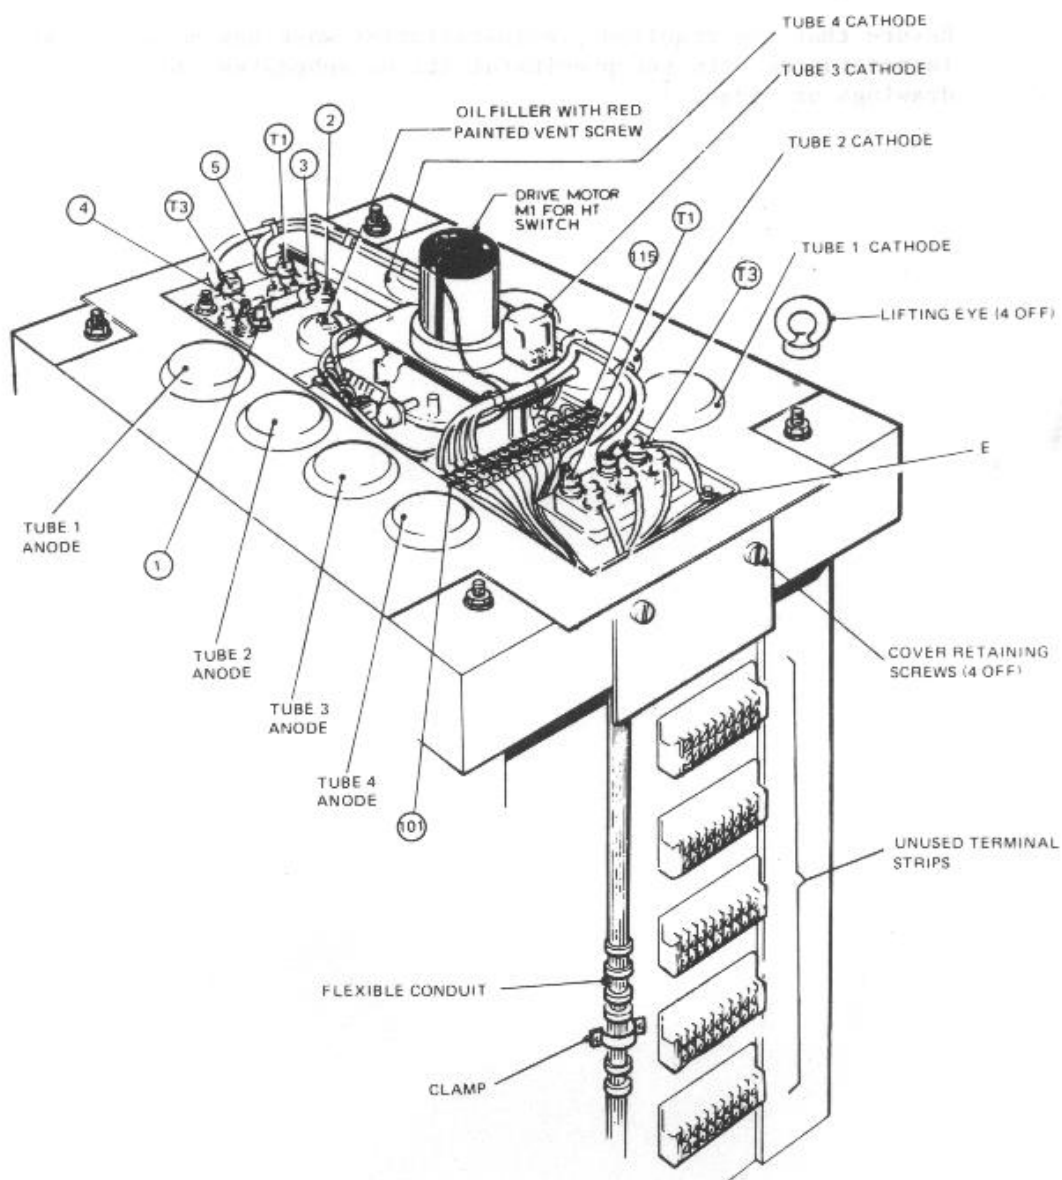

FIG.2 HT TRANSFORMER TOP AND CONNECTIONS
- B Remove the oil-filler cover (see Fig. 2) from the HT transformer.
To gain access to the HT transformer terminals, it is necessary to remove the cover. To do this, the four cover securing screws must be unscrewed (see Figure 2). When work has been completed, the cover must be refitted.
- A One flexible conduit is provided for connection between the prewired wall box (see Fig. 6) and the HT transformer (see Fig.2).
- E The heavy-duty conductors are divided into two groups which are to be secured to the appropriate terminals at the wall box and at the end of the HT transformer nearest the Tube 4 anode socket (see Fig. 2) as follows:
A The HT transformer is equipped to supply up to four double-focus X-ray tubes. The positions of the HT cable sockets are shown in Figure 2.